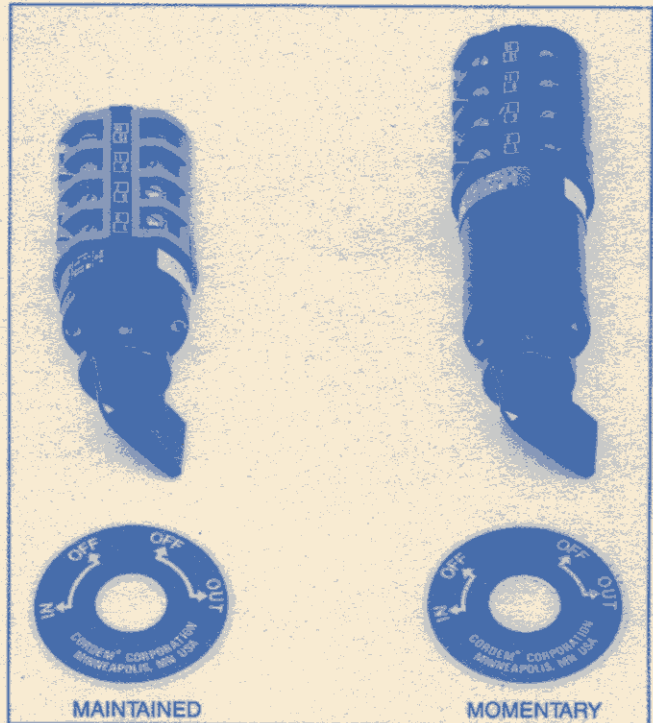

FIG. 5.
3. Prior to connecting electrical power, make sure that the DIRECTION SELECT switch (figure 5) is in an OFF position.
CAUTION: For proper braking operation, the switch handle must return to the closest OFF position (see figure 5). If the handle continues past the closest OFF position to the other OFF position, stop all operation of the winch and call the factory for special maintenance instructions.
All motor and drum direction control is accomplished through the use of the DIRECTION SELECT switch (figure 5).